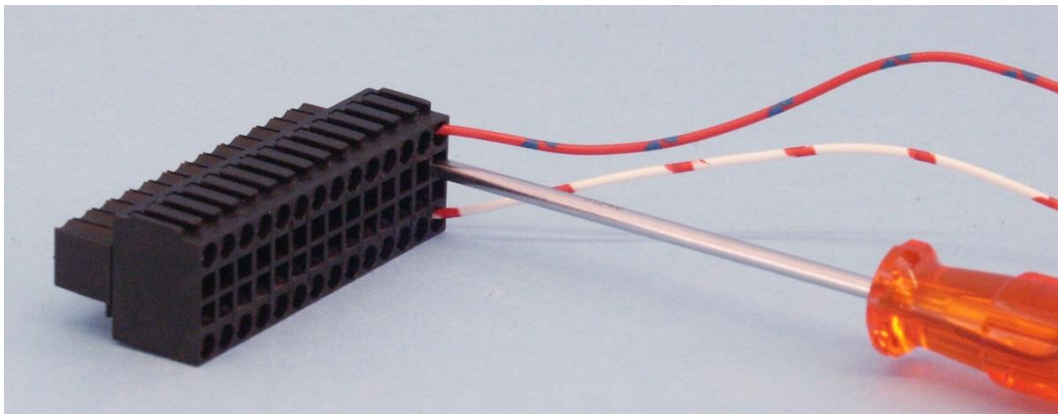

Figure 27: PLC connector
3. Connect the PLC connector (*Figure 27*) to the controller.